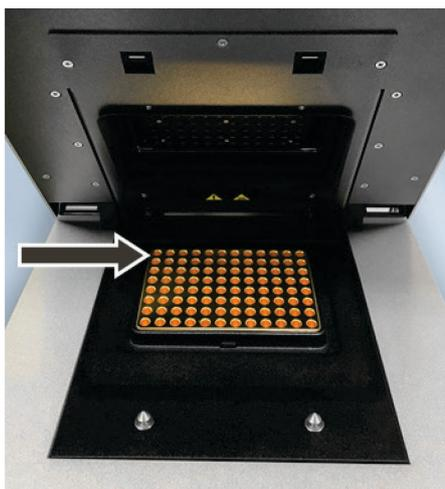

Figure 9. Position A1 on the sample block.
3. Place the PCR plates onto the thermal block in such a way that well A1 is on the left-hand side (arrow in Figure 9). This position corresponds to the well allocation in the QIAquant 96 software program.